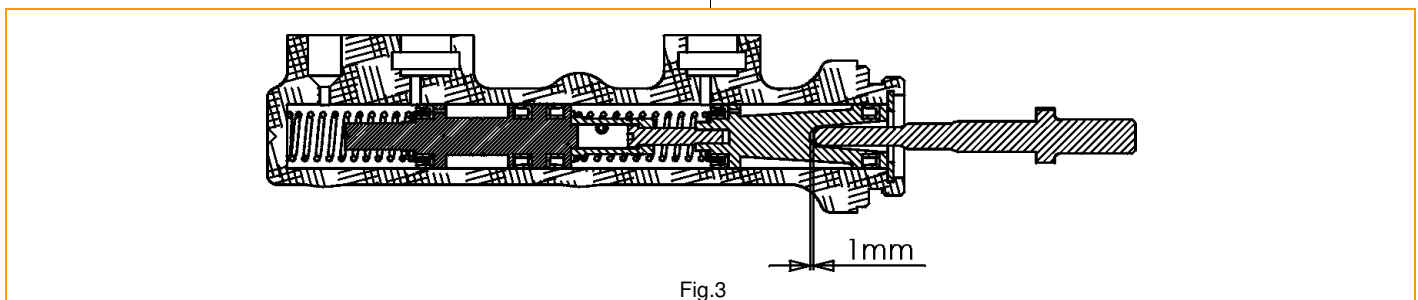

Fig.3
- Check the Pushrod that goes into the master cylinder from the pedal. It should have a 1/32 inch (1mm) of play before you can feel the rod make contact with the plunger (see Fig.3).
- Das Spiel sollte 1 mm betragen. Siehe Fig.3